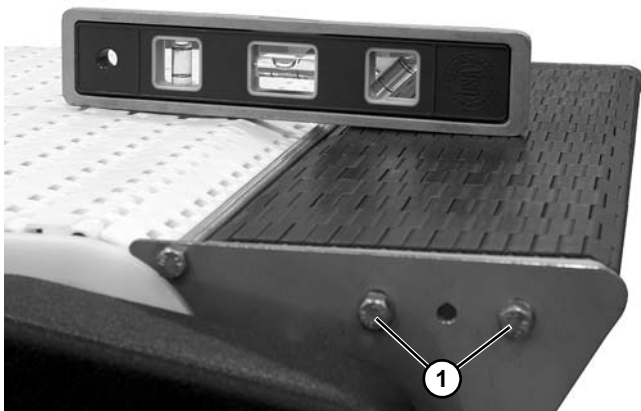

Figure 84
14. Adjust height as needed by loosening two hex head screws (**Figure 84, item 1**) on both sides of the power transfer. Tighten screws.